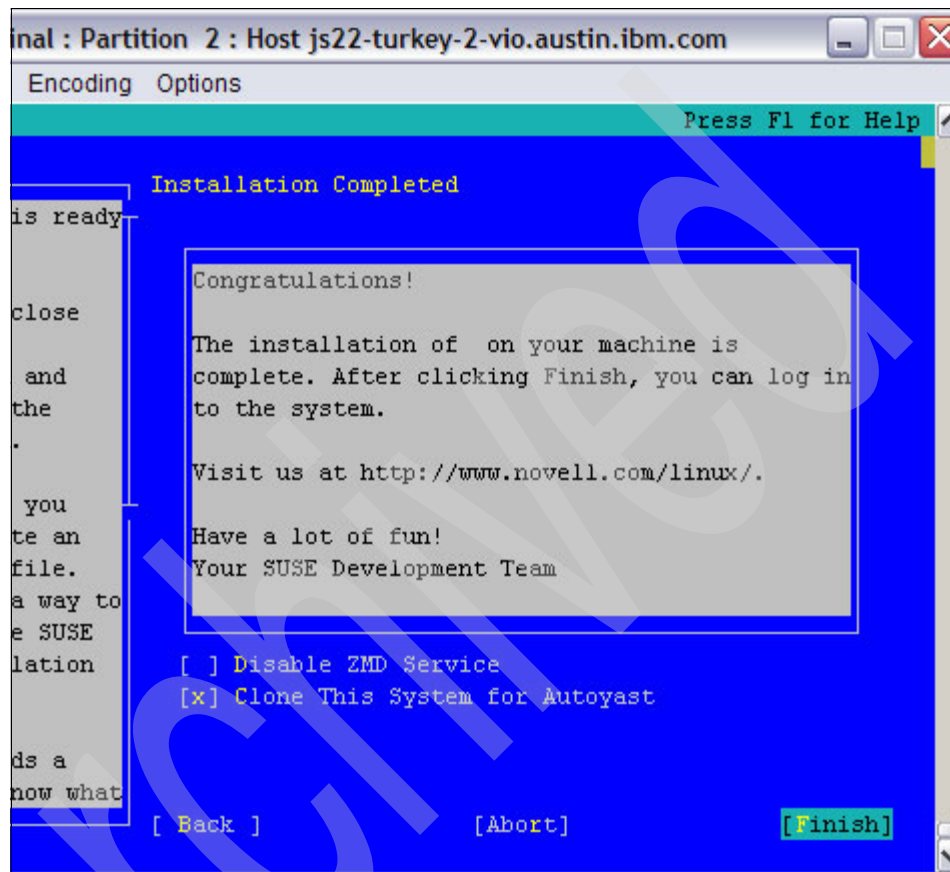

Figure 7-19 Installation completed window
2. Change the Certification Authority (CA) Installation setting, if desired. Select **[Next]** to confirm the changes.
7. YaST displays the Installation Completed window (Figure 7-19). Select () **Clone This System for Autoyast** (see “SLES 10 SP2 automated installation” on page 326 for more information) if desired and then select **[Finish]**.
2. In the Installation Completed YaST window (see Figure 7-19 on page 325), select () **Clone This System for Autoyast** and then select **[Finish]**. This creates an Autoyast profile in `/root/autoinst.xml` that is ready for immediate use.